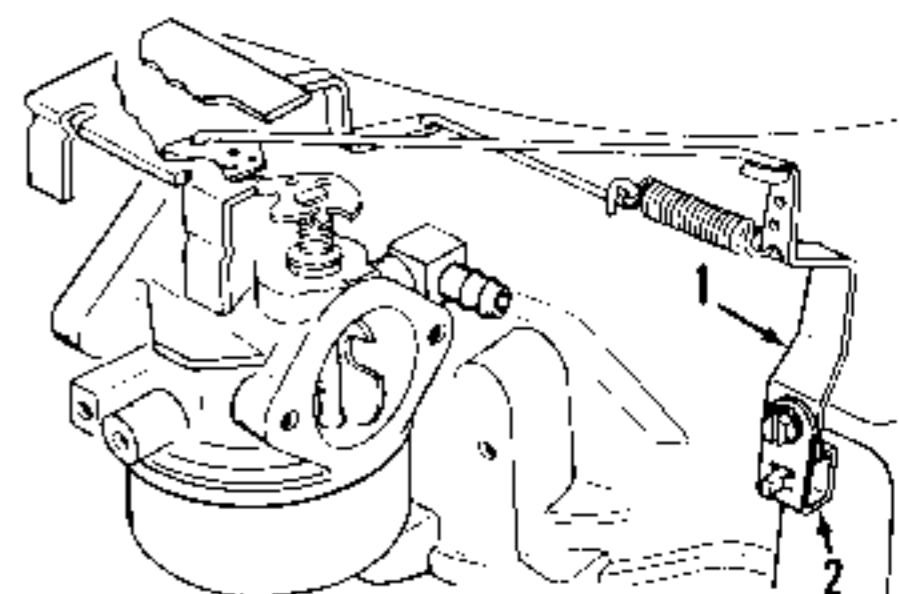
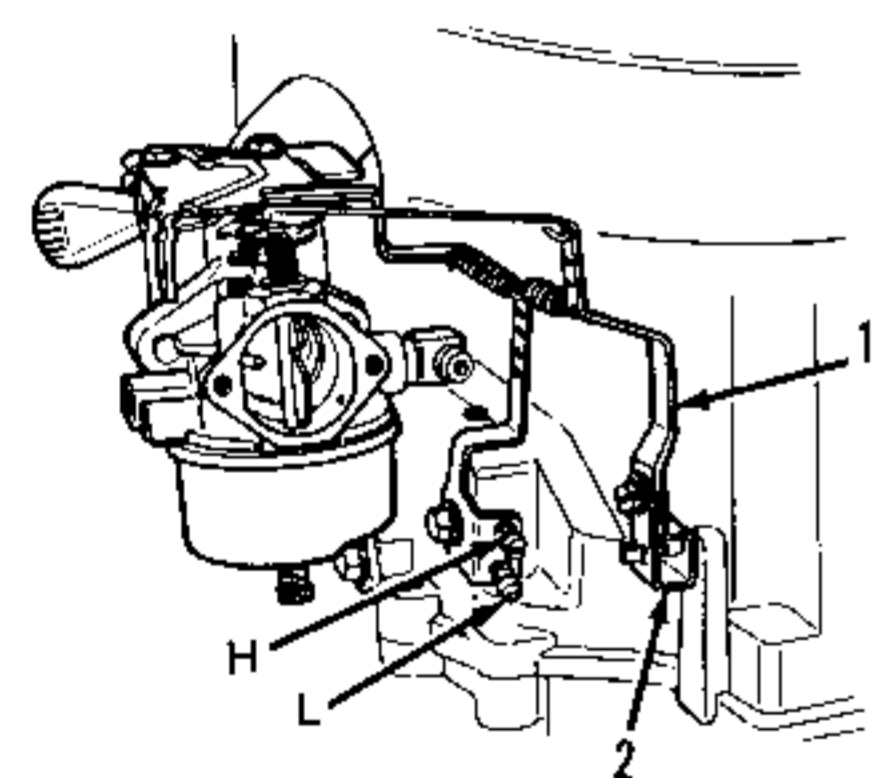

Fig. TC7—Drawing of governor external linkage typical of standard engines without governor override system. Refer to text for adjustment procedure.
Fig. TC8—Drawing of governor external linkage typical of engines equipped with governor override system. Refer to text for adjustment procedure.
To adjust external governor linkage, stop engine and loosen the screw securing governor lever (1—Fig. TC7 or Fig. TC8) and governor clamp (2). Push governor lever to fully open carburetor throttle, then turn governor clamp counterclockwise as far as it will go. While holding clamp and lever in this position, tighten screw.
On 1985 and later production OVM120 and OVXL120 engines, a governor override system is used. Linkage is shown in Fig. TC8. On these engines, high speed setting is adjusted by turning top screw